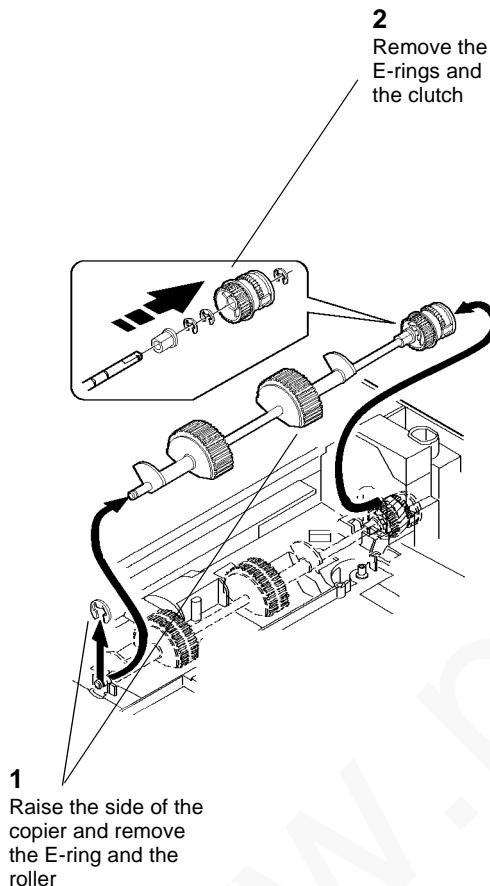

Figure 1 Removing the Paper Feed Roller
2. (Figure 1): Remove the Paper Feed Roller.